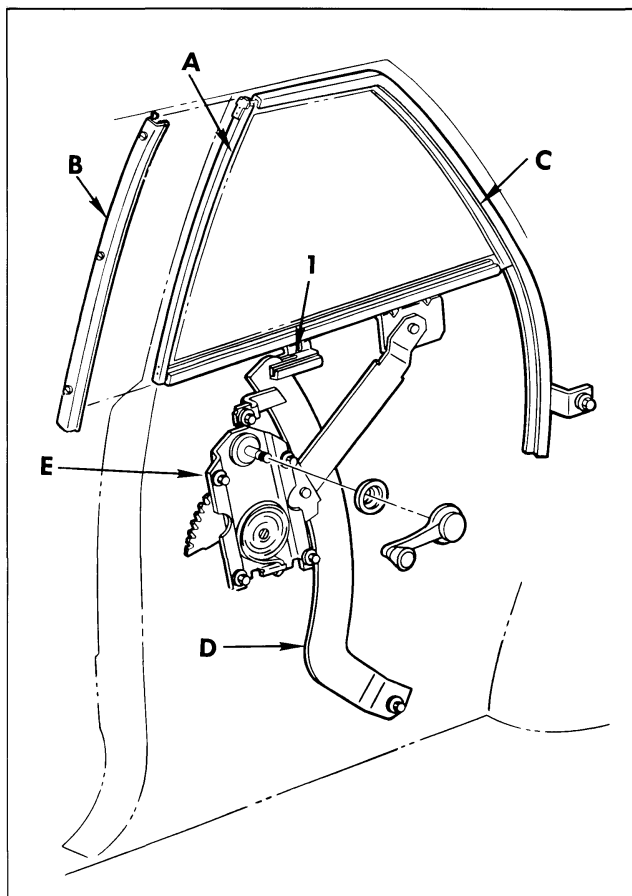

Fig. 13-1 Rear Quarter Hardware - 27 Styles
Figures 13-1 and 13-2 identify the major components of the rear quarter hardware on those styles that incorporate a dropping rear quarter window.
5. Lower window to disengage nylon "clothespin" guide on lower sash channel from window guide assembly at bottom, nylon guide on upper corner of front sash channel from front glass run channel, and rear edge of glass from rear glass run channel (1, Fig. 13-1).